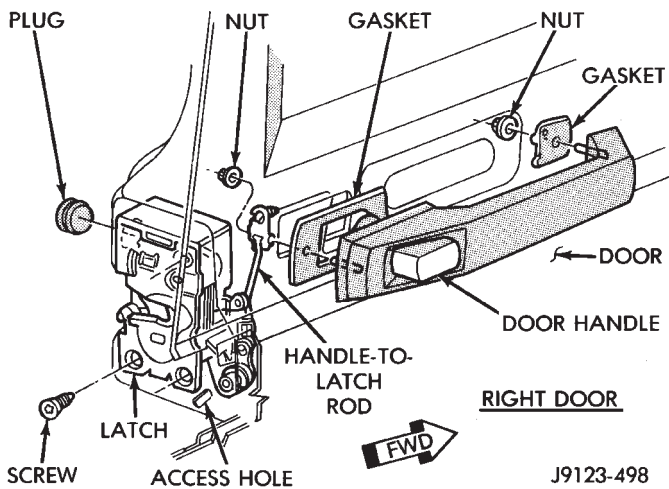

Fig. 72 Door External Handle Removal/Installation
- (1) Remove the door trim panel and waterdam.
- (2) Remove the access hole cover and remove the door handle nuts (Fig. 72).